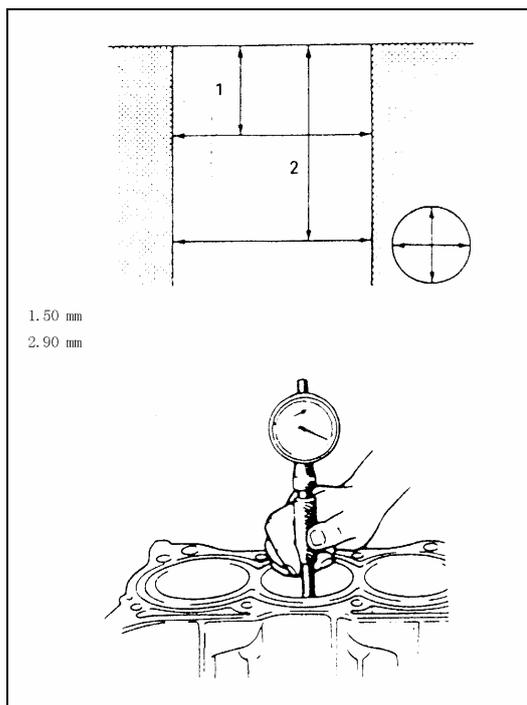

Fig. 4-171
2) As fig. 4-171, respectively measure cylinder dia. at lateral (namely toward thrust surface) and axial with micrometer.